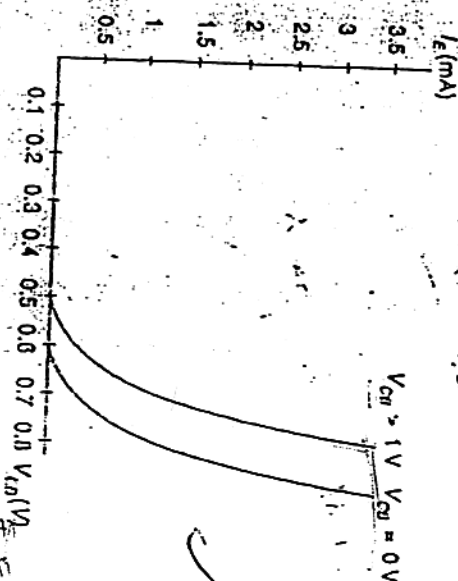

Fig. 6.8 CB input characteristics
**Input characteristics** To determine the input characteristics, the collector-base voltage  $V_{CB}$  is kept constant at zero volt and the emitter current  $I_E$  is increased from zero in suitable equal steps by increasing  $V_{EE}$ . This is repeated for higher fixed values of  $V_{CB}$ . A curve is drawn between emitter current  $I_E$  and emitter-base voltage  $V_{EB}$  at constant collector-base voltage  $V_{CB}$ . The input characteristics thus obtained are shown in Fig. 6.8.